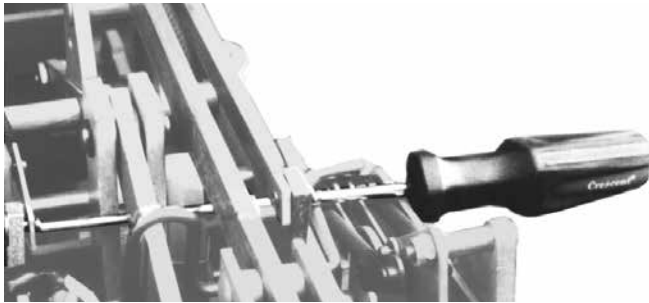

Figure 18. Mechanism blocked with screwdriver.
- With H bracket disengaged, gently push down on switch SW2 until hearing a click as switch contact encounters cam and closes (Figure 18).